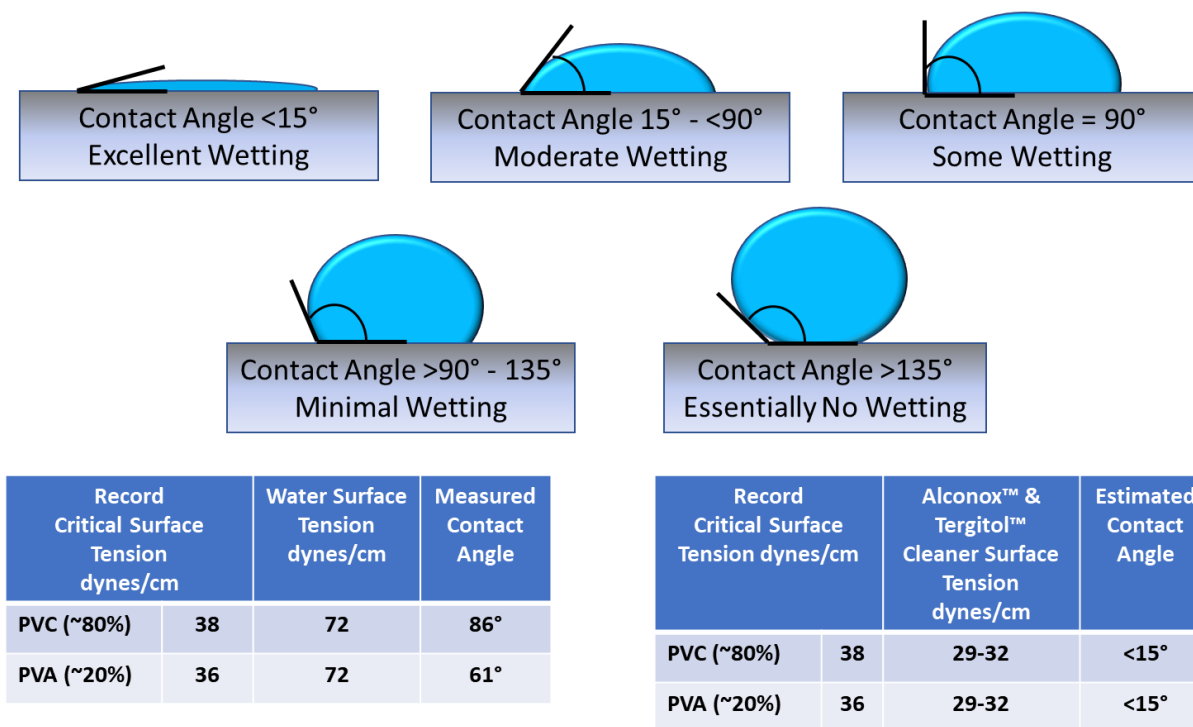

Figure 36 – Contact Angles and Wetting
VIII.3 Supporting the discussion of surfactants, is the concept of ‘wetting’. All fluids have a surface tension measured in dynes/cm (English units); *“the attractive force exerted upon the surface molecules of a liquid by the molecules beneath that tends to draw the surface molecules into the bulk of the liquid and makes the liquid assume the shape having the least surface area.”* All solids have surface energy that is likewise measured in dynes/cm and is often called “critical surface tension”. Most metals have a very high critical surface tension (copper = 1360 dynes/cm), much larger than the surface tension of water (72 dynes/cm). But the PVC/PVA in a record is very low at 38/36 dynes/cm; much lower than water. When a fluid is placed on a solid surface, depending on the difference in surface tensions (and other factors), the fluid will form a contact angle with the surface, and this is illustrated in **Figure 36**.
- VIII.3.3 However, in **Figure 36**, the critical surface tension of the record's materials is much less than water, and the large contact angle produced by water is consistent with **Figure 23** that shows DIW beads-up when sprayed on the clean record.